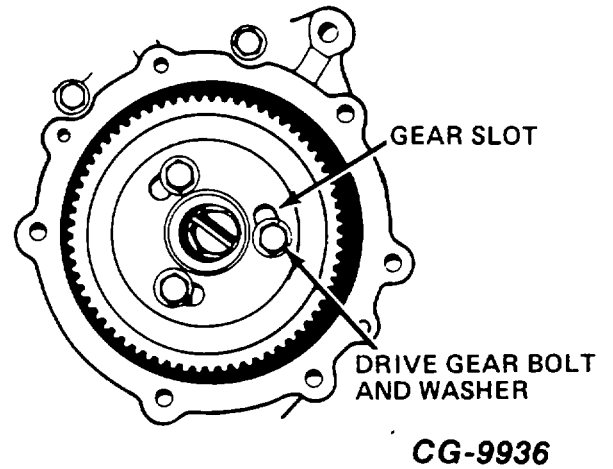
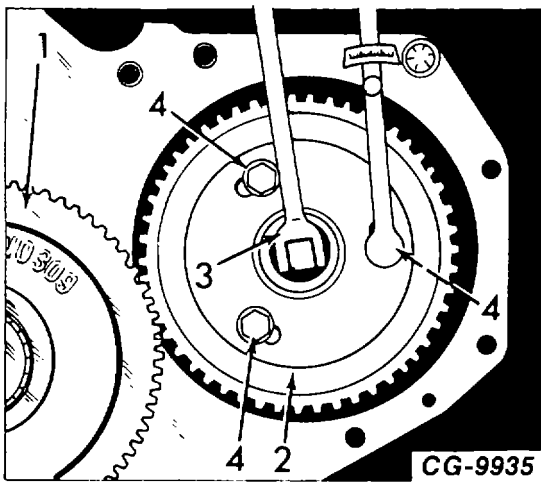

Figure 27c. - Drive Gear Bolt Slots
Figure 27b. - Tightening Drive Gear Bolts (Robert Bosch Model MW Fuel Injection Pump)
- b. Using drive gear bolts and washers, loosely install injection pump drive gear to injection pump meshing it with the idler gear (1, Fig. 27b). Make sure drive gear is positioned in gear slots (Fig. 27c) so it allows for adjustment.
- d. Holding the pump shaft with a socket wrench (3, Fig. 27b) torque drive gear bolts to 47 N•m (35 lbf-ft).